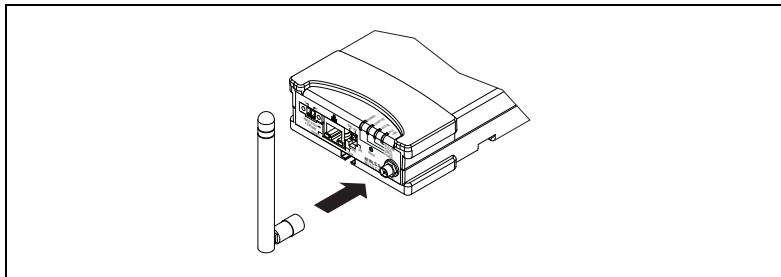

Figure 3. NI WLS-9163 Carrier Antenna Assembly
5. **(NI WLS-9163 Carrier Only)** Attach the supplied antenna as shown in Figure 3.